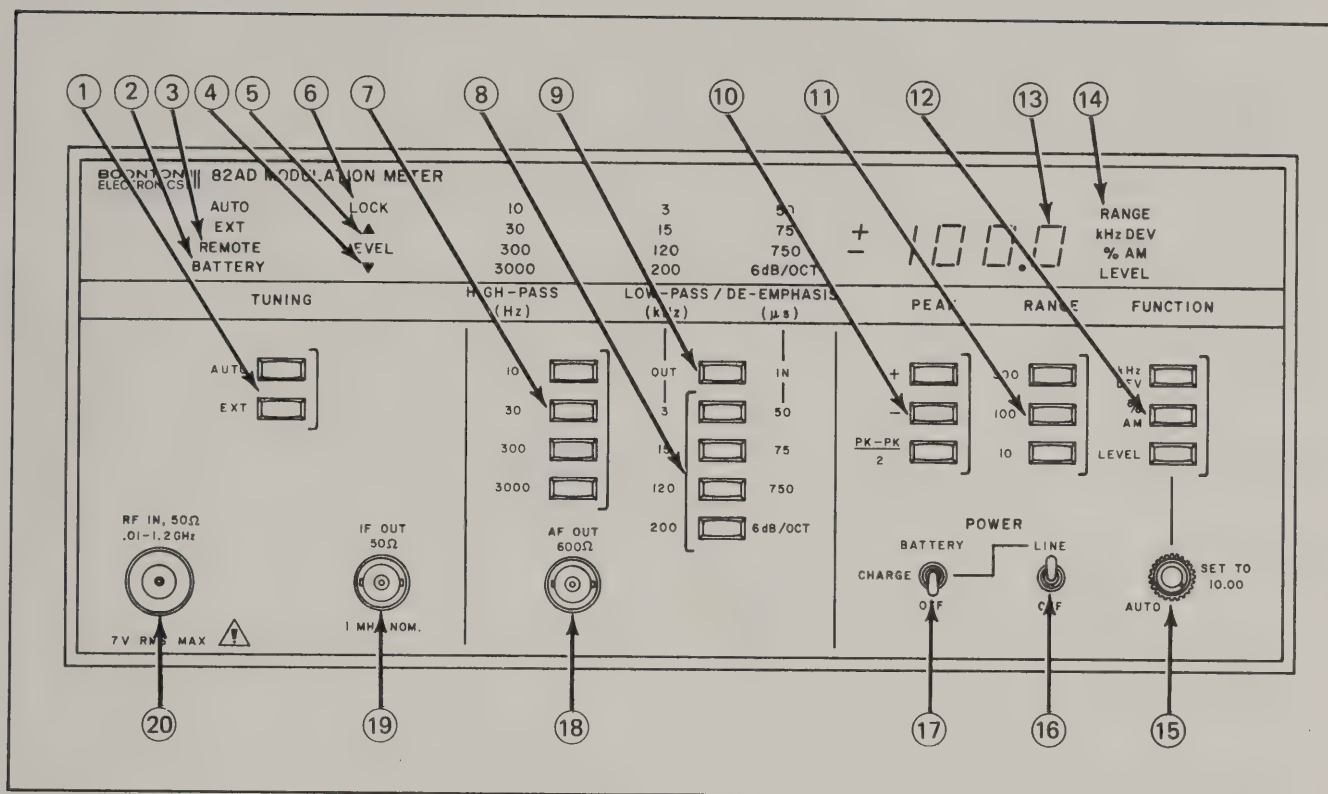

Figure 2-2 Model 82AD, Front View
**2-9.** All controls, indicators, and connectors used during operation of the Model 82AD are shown in Figures 2-2 and 2-3. Table 2-1 lists their functions.